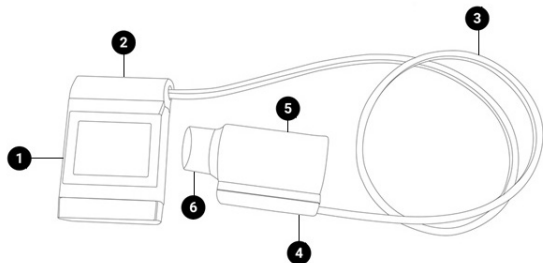

Figure 2
1. Remove the flowhead from the main body of the device by gripping and sliding it firmly in the direction of the flowhead cone (6).
2. Connect the remote flowhead adaptor (4) to the base of the flowhead (5), connect the device cap (2) to the device (1).
3. Unwrap the flowhead connection tubing (3) and connect one
end to device cap (2) and the other end to the remote flowhead adaptor (4). See Figure 2. The tubing is keyed, so it will only connect one way.